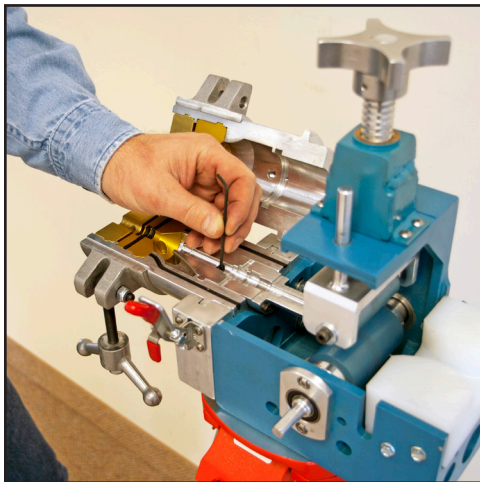

Figure 5. Select and Install Bottom Venturi
4. Select and install the appropriate sized Venturi to the Blower Assembly using (1) M04-0.7 x 16mm Capscrew. (See figure 5)